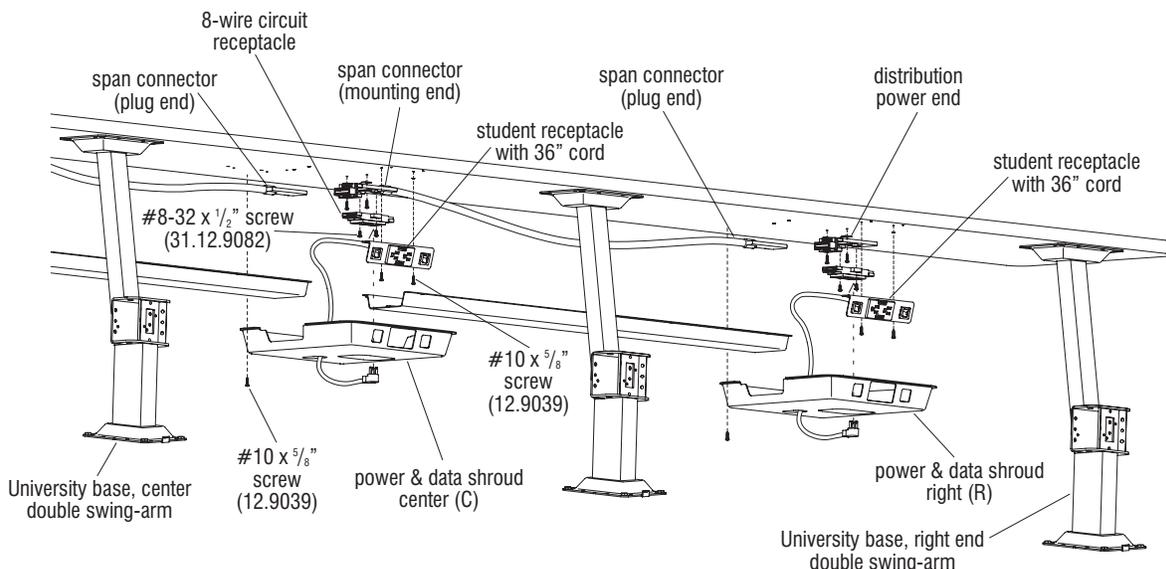

Figure 18 - Left Power Infeed with Single Swing-arm Ends (Single Swing-arm Detail)
60. Per the space-planning layout, continue down the line to the right and install the mounting ends of span connectors to the underside of the table top using two #10 x 5/8” screws as illustrated. Torque screws to 25 in/lbs. At the end of the run of span connectors, a “distribution power end” will be installed in the same manner as the span connectors were (Figure 18). Snap the plug ends of the span connectors into the mounting ends as you go along. Snap the plug end of the final span connector into the distribution end as illustrated (Figures 17 & 18, Detail B).